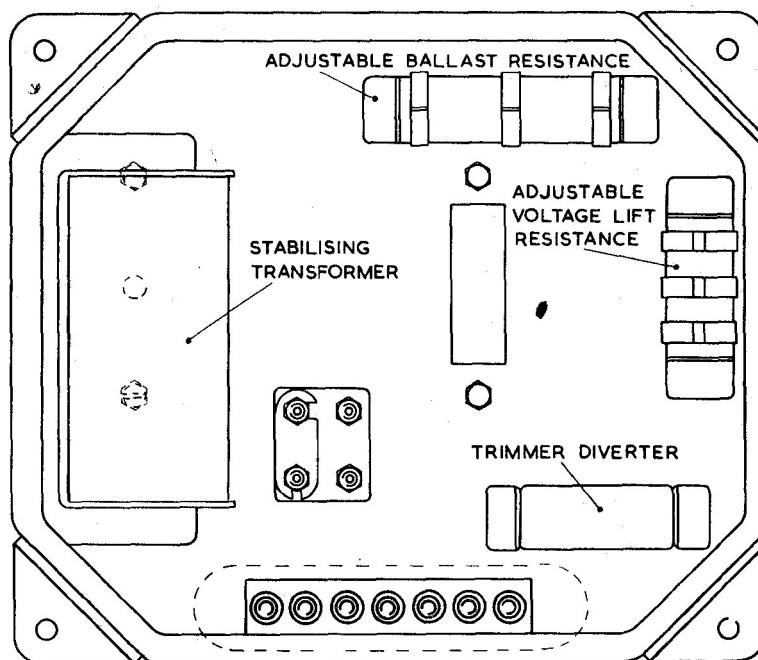

Fig. 2. Underside of regulator
3. The regulator unit is mounted on a base, beneath which are housed the adjustable and fixed ballast resistors and the stabilizing transformer (fig. 2). A remote trimmer (10